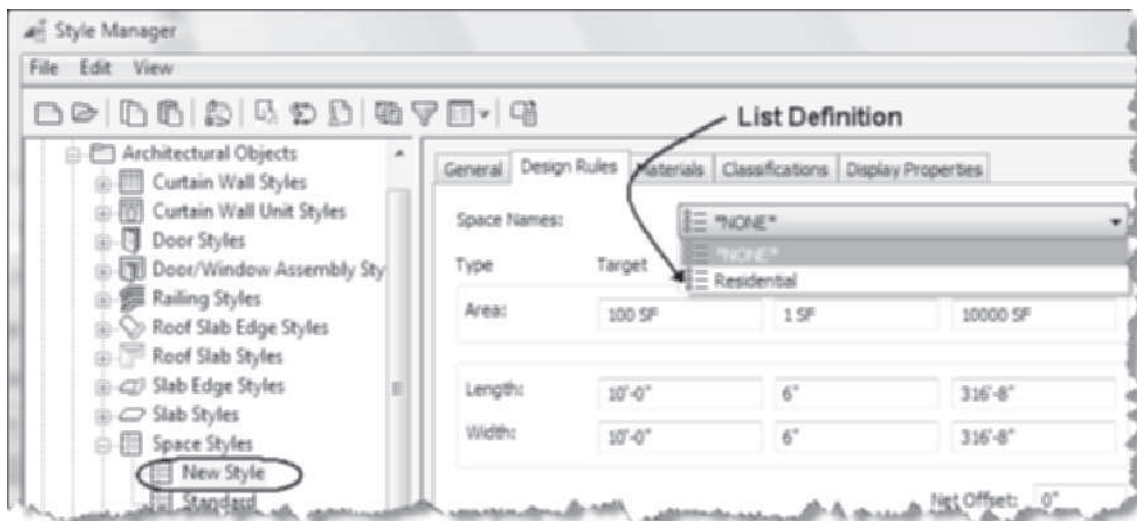

FIGURE 4.35 Defining a list for a space
8. Edit the drop-down list to specify the name list for the space style as shown in Figure 4.35. When this space is inserted, the list definition linked to the space style will be displayed in the **Name** field in the **Design** tab of the Properties palette.